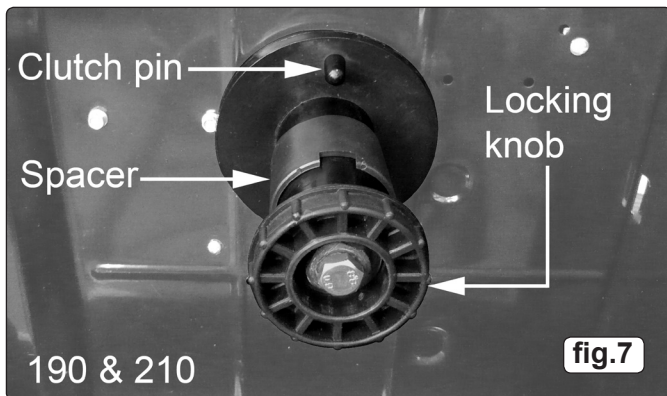
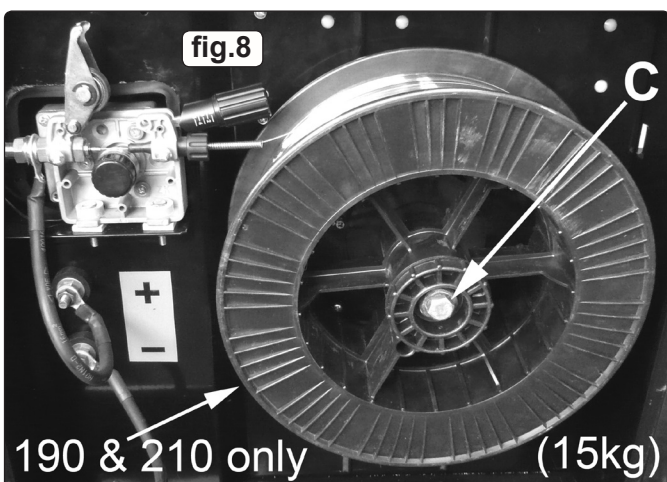

fig.7
fig.8
**3.7.1** Unscrew the locking knob from the end of the spool holder (see fig.7) and remove the spacer. Slide the reel of wire onto the spool holder and ensure that the clutch pin at the back of the spool holder engages into the guide hole in the wire reel moulding. This will prevent the wire reel from freewheeling on the spool holder. When using a 5kg reel, slide the spacer onto the spool holder before refixing the locking knob. Ensure that the wire is coming off the top of the reel in the direction of the wire drive unit as shown in fig.8 which shows a 15kg reel of wire in place on the spool holder.
- 3.11.3 Tighten the clutch nut located in the centre of the wire spool holder with a spanner (fig.8-C) and test the machine as above until the wire stops over running.